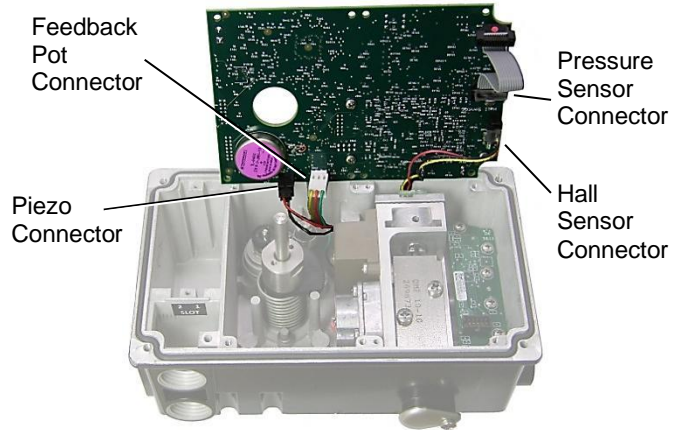

Figure 50: Main Board Connectors
Up to two auxiliary cards can be installed at a time. Each communicates independently to the main processor, though only one cable is used to connect both cards. See Figure 50.
- 6 Disconnect the auxiliary card cable if present. See Figure 50: Auxiliary Card on page 60.